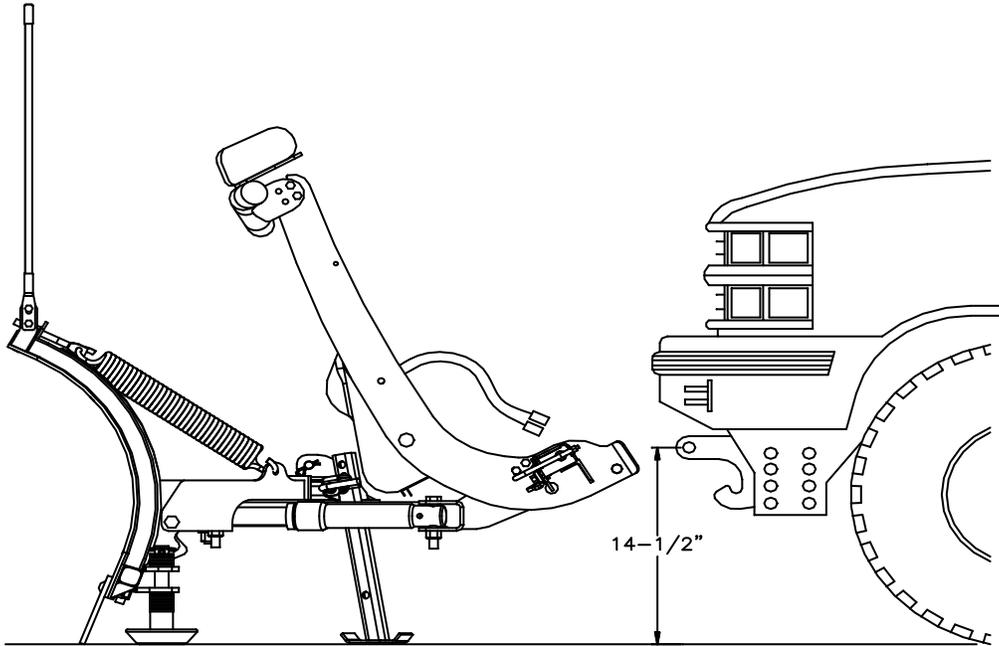

Figure 2
1. Remove transfer case skid plate if applicable. Remove the plastic air dam from the bumper. Remove the mounting hardware connecting the bumper to the driver side of the frame while leaving the passenger side attached. Align the two vertical holes on Push Beam Support Plate (62B) with the bumper mounting holes on the outside of the frame. Attach Push Beam Support Plate (62B) to the frame using the existing Bolt Bar (BB) and existing Nuts (AA). If the vehicle is equipped with tow hooks the Push Beam Support Plate (62B) *must* be attached to the frame using ½"-13 X 5" Hex Head Bolts (G), ½" Flat Washers (H), and ½"-13 Nylon Lock Nuts (B) instead of the existing bolts. Adjust the bumper to its highest height before tightening the nuts. Insert Square Washer (103) into the frame of the truck through the Vertical Slot on the inside of the frame. Insert Bolt Bar (102) down through the Top Hole of the frame rail through Square Washer (103), through the bottom of the frame rail, and then through the aligned horizontal mounting hole on Push Beam Support Plate (62B). Install ½"-13 Hex Head Nylon Lock Nut (B) onto Bolt Bar (102). Make sure the driver side is secure to the frame and then repeat the process on the passenger side while leaving the driver side attached. Secure both plates before proceeding. NOTE: While Push Beam Support Plates (62A & 62B) have two mounting holes on the horizontal plate, only the single aligned hole will be utilized during installation.
3. Insert Nut Plate (101) inside the frame crossmember by sliding it between the top of the frame crossmember and swing arm. Align the holes with the large oval holes in the bottom of the skid plate. Assemble Skid Plate Attachment (80) onto the vehicle's skid plate using 5/8" Split Lock Washers (F) and 5/8"-11 X 2" Hex Head Bolts (E). Center Skid Plate Attachment (80) and finger tighten the 5/8"-11 X 2" Hex Head Bolts (E).
4. Assemble Angle Brackets (75A & 75B) onto the outside of the tabs on the bottom of the Skid Plate Attachment (80) using two ½"-13 X 1-1/2" Hex Head Bolts (A) and ½"-13 Hex Head Nylon Lock Nuts (B) on each side. Finger tighten the assembly.
5. Assemble Push Beam Assembly (62) between Push Beam Support Plates (62A & 62B) using four ½"-13 X 1-1/2" Hex Head Bolts (A) and ½" -13 Hex Head Nylon Lock Nuts (B) on each side. NOTE: The proper height adjustment for Push Beam Assembly (62) is 14-1/2" from the ground to the center of the pin receiving hole (see Figure 2). Leave hardware finger tight. Assemble Angle Brackets (75A & 75B) onto the tabs on the back side of Push Beam Assembly (62) using two ½"-13 X 1-1/2" Hex Head Bolt, GR8 (C) and ½"-13 Hex Head Top Lock Nut, GRC, (D) on each side.
6. For model year 2004 vehicles, the frame crossmember does not have existing holes. Align the fully assembled undercarriage onto the frame crossmember. Make sure the Skid Plate Attachment (80) contacts the front of the frame crossmember and is centered. Use the existing holes in Skid Plate Attachment (80) to mark and drill two 11/16" holes in the frame crossmember. Insert Nut Plate (101) inside the frame crossmember by sliding it between the top of the frame crossmember and swing arm. Mount Skid Plate Attachment (80) using Nut Plate (101), 5/8" Split Lock Washers (F), and 5/8"-11 X 2" Hex Head Bolts (E).
7. With all components in place, begin tightening the hardware. Skid Plate Attachment (80) should be tightened first. Make sure Angle Brackets (75A & 75B) are attached to correct holes in Push Beam Assembly (62) tabs. Angle Brackets (75A & 75B) should be level with the ground. Tighten the remaining hardware.